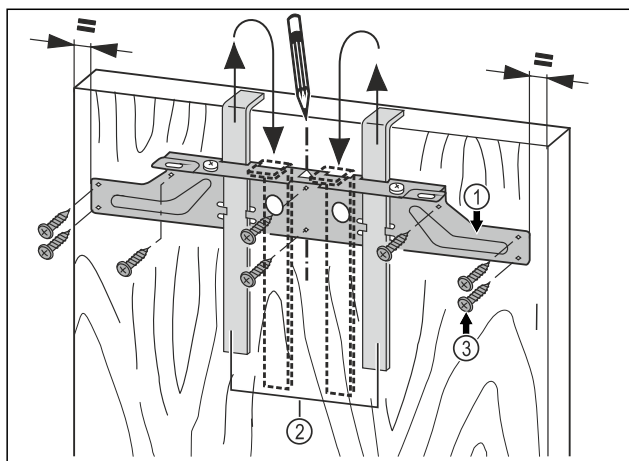

Fig. 20
- Hang the fastening crossbeam Fig. 20 (1) with the assembly aids Fig. 20 (2) on the inside of the unit door.
- Align the fastening crossbeam Fig. 20 (1) in the center of the door.
- Screw down the fastening crossbeam Fig. 20 (1) with at least 6 screws Fig. 20 (3).
- Screw down the fastening crossbeam Fig. 20 (1) to the edge with 4 screws Fig. 20 (3).
- Pull out the assembly aids Fig. 20 (2) upwards and insert them rotated into the adjacent openings.